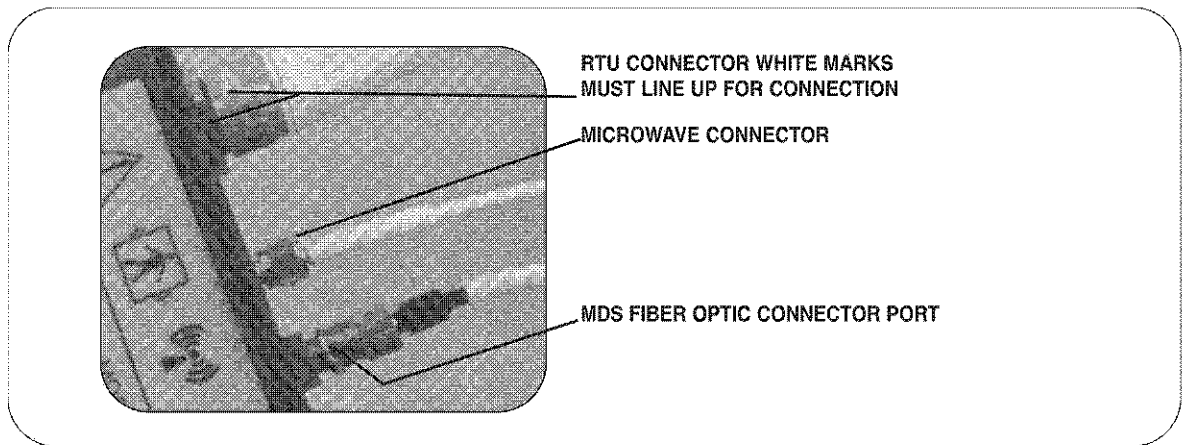

Figure 2-19: Patient Connection Cable
9). Connect the rectal unit connector to the patient connection cable housing (*Figure 2-19*).